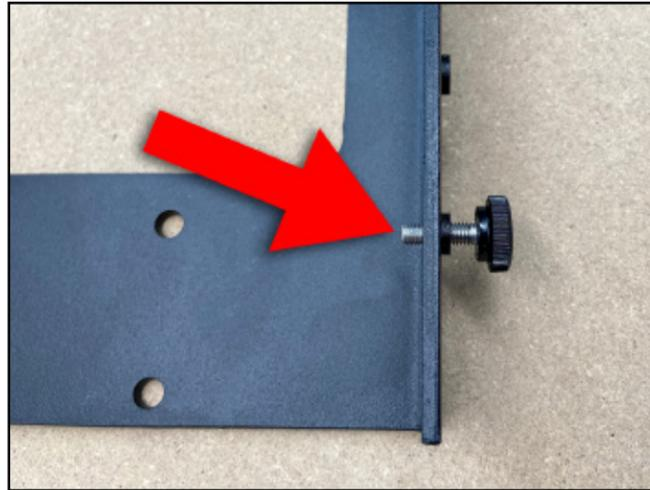

Figure 2-4
1. Screw the four (4) adjustable leveling feet into the outermost PEM nuts at either end of each endplate. Screw in until there is an equal portion of thread exposed above and below the endplate, about 3/16". See **Figure 2-4**.